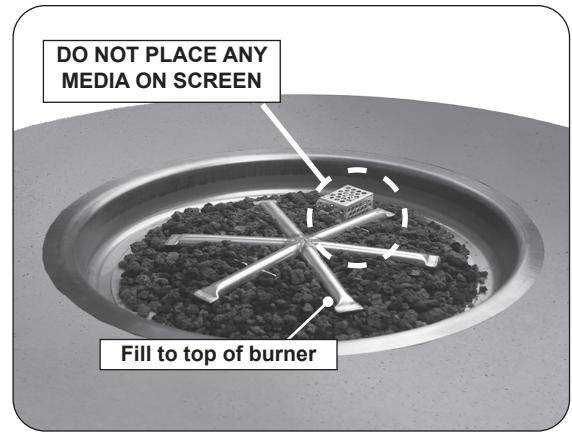
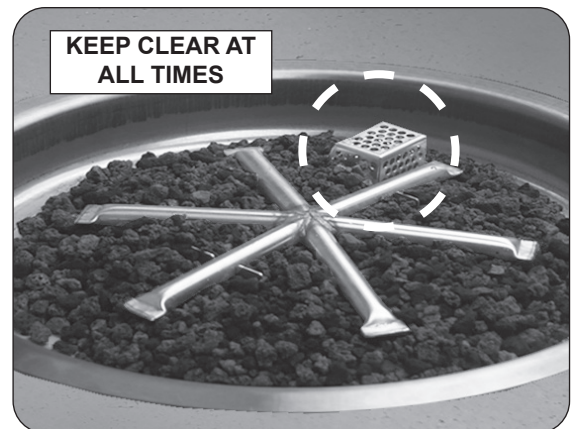

Fig. 34-1 Place lava granules
Fig. 34-2 Screen detail
1. Pour the 5 or 10 lb bag of lava granules into the burner pan (with the exception of the screen). Spread the granules within the burner area as shown in Fig. 34-1 and Fig. 34-2. **Only fill the granules up to the top of the burner tube.**